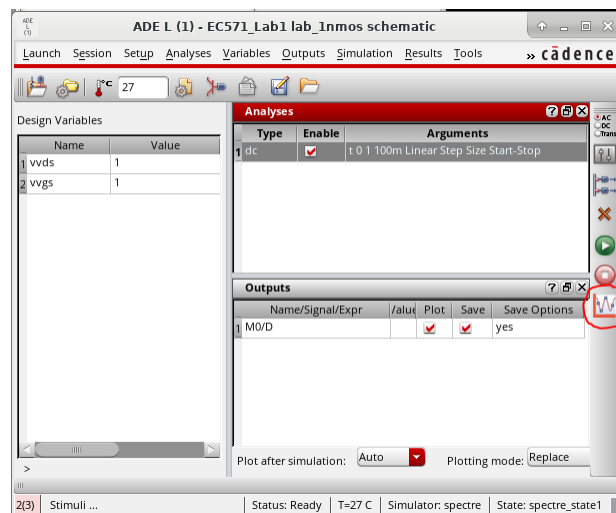

Figure 27: Plot your simulation results from the “ADE L”
8. The output of a simulation is plotted when the simulation ends. You can also plot it by going to Results → Plot outputs → DC, or by simply clicking on small graph button on right in the “ADE L” window as shows on Figure 27.